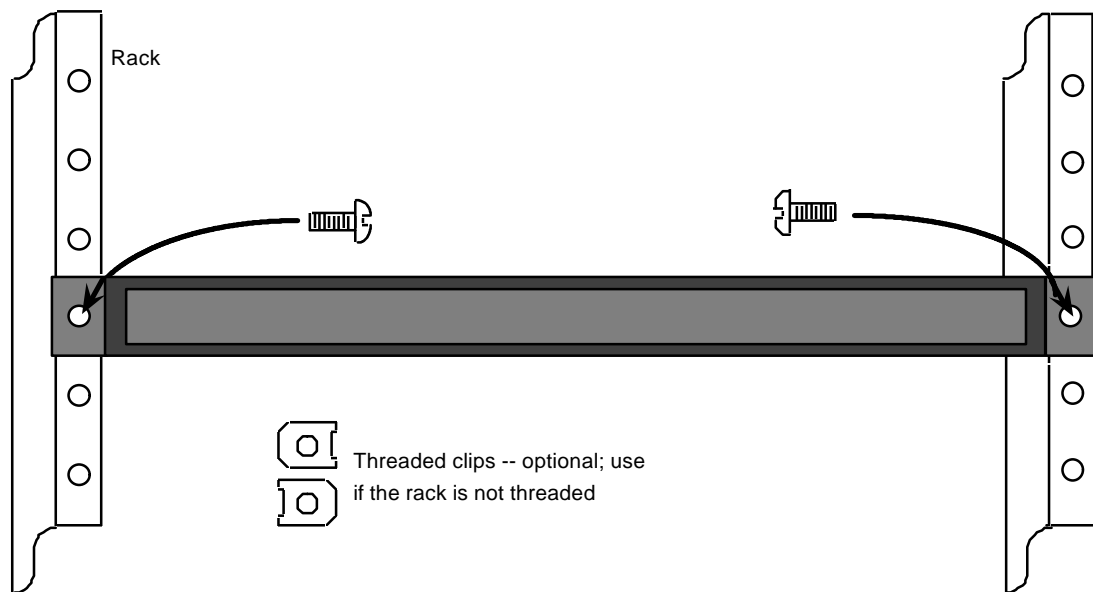

Figure 2 - Mounting a MAXserver in Rack
2. Secure the unit to the mounting rack using the supplied bolts, as shown in Figure 2. If the rack is not threaded, use the threaded clips supplied with the server.